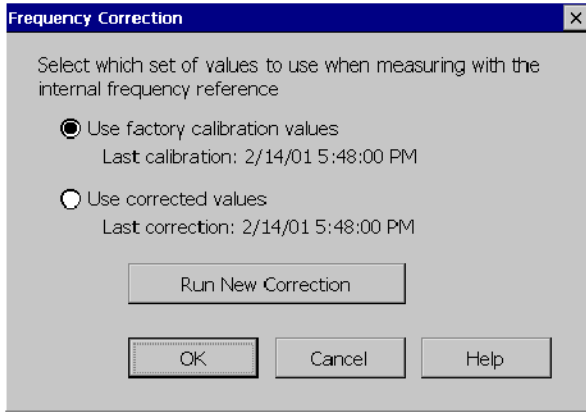

Figure 2-13: The Frequency Correction dialog
5. Tap **Close**. This displays the initial frequency correction dialog shown in Figure 2-13.